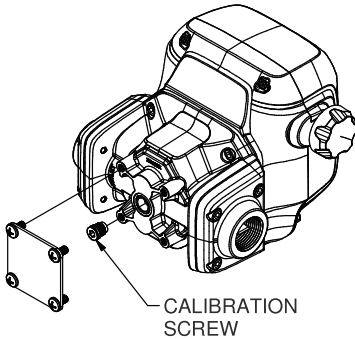

figure 5a
1. To adjust the calibration of the meter, gain access to the calibration screw by performing the following: (see Figure 5a)
2. Remove the back plate and the (4) screws retaining it. The O-ring seal under the plate must not be damaged.